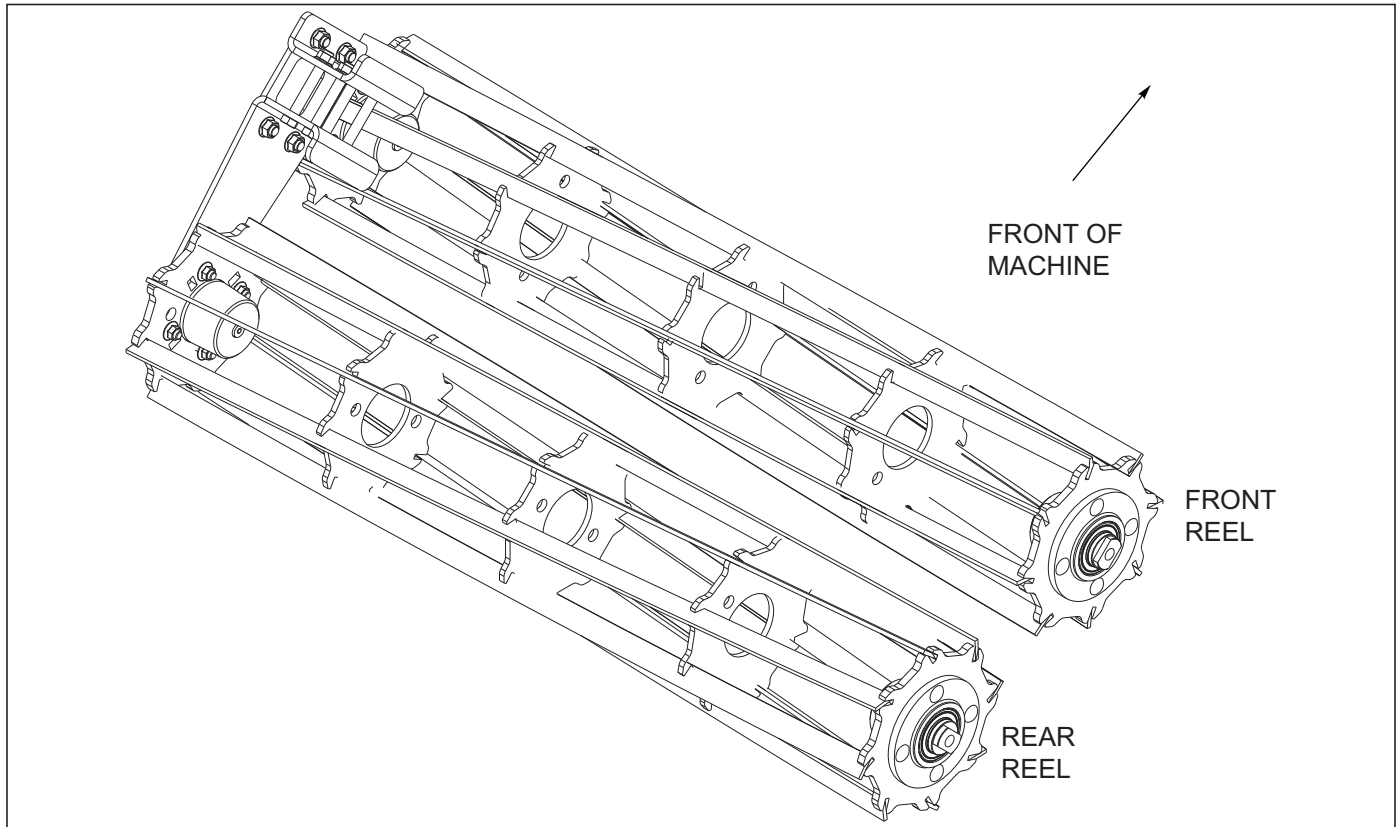

Figure 3-36: 3RS DBL Flat Reel Installation
5. Attach flat bar reels with front and rear reel angled blades as shown **See Figure 3-36.**
Flat reel assemblies are shipped with the front reel blades as shown **See Figure 3-36.** Trailing reels are angled backwards for more firming action.